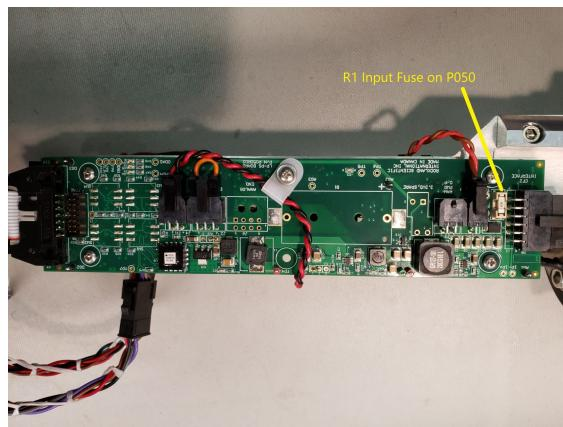

Figure 40: R1 fuse on the Power Supply board (P050).
2. If that fuse is functional, then check the 1A fuse, labelled “R1”, that is located on the underside of the power supply board (Figure 40). To check while the fuse is installed, first disconnect the main battery and then use your multi-meter to measure the resistance of the fuse. It should be greater than $0\ \Omega$.